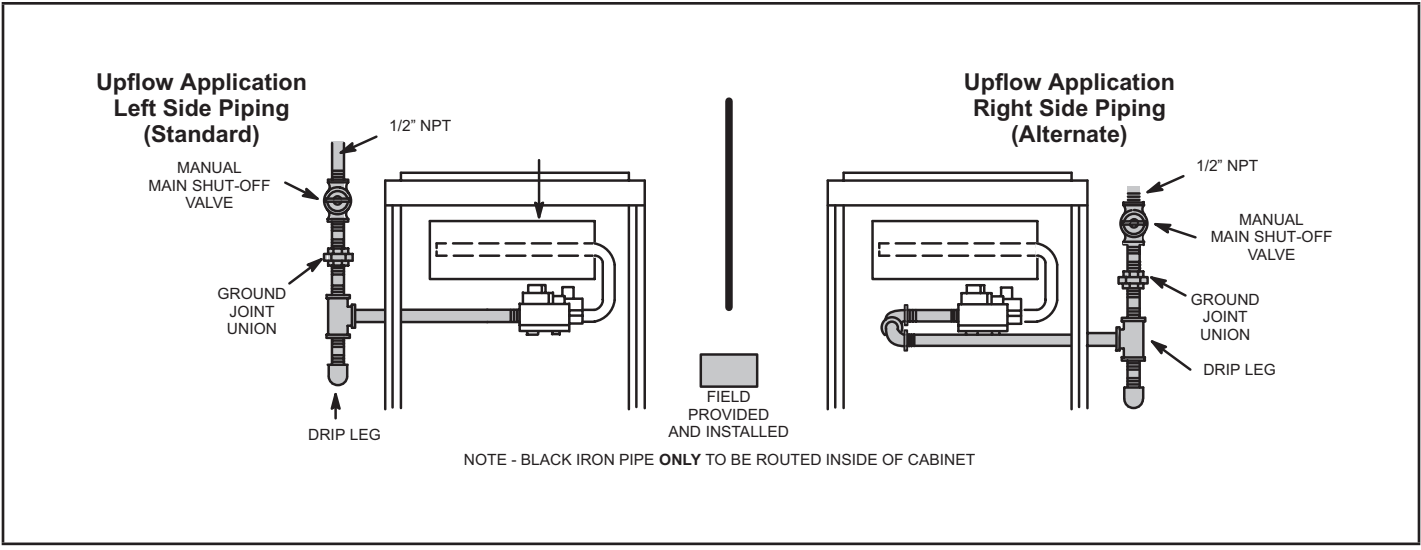
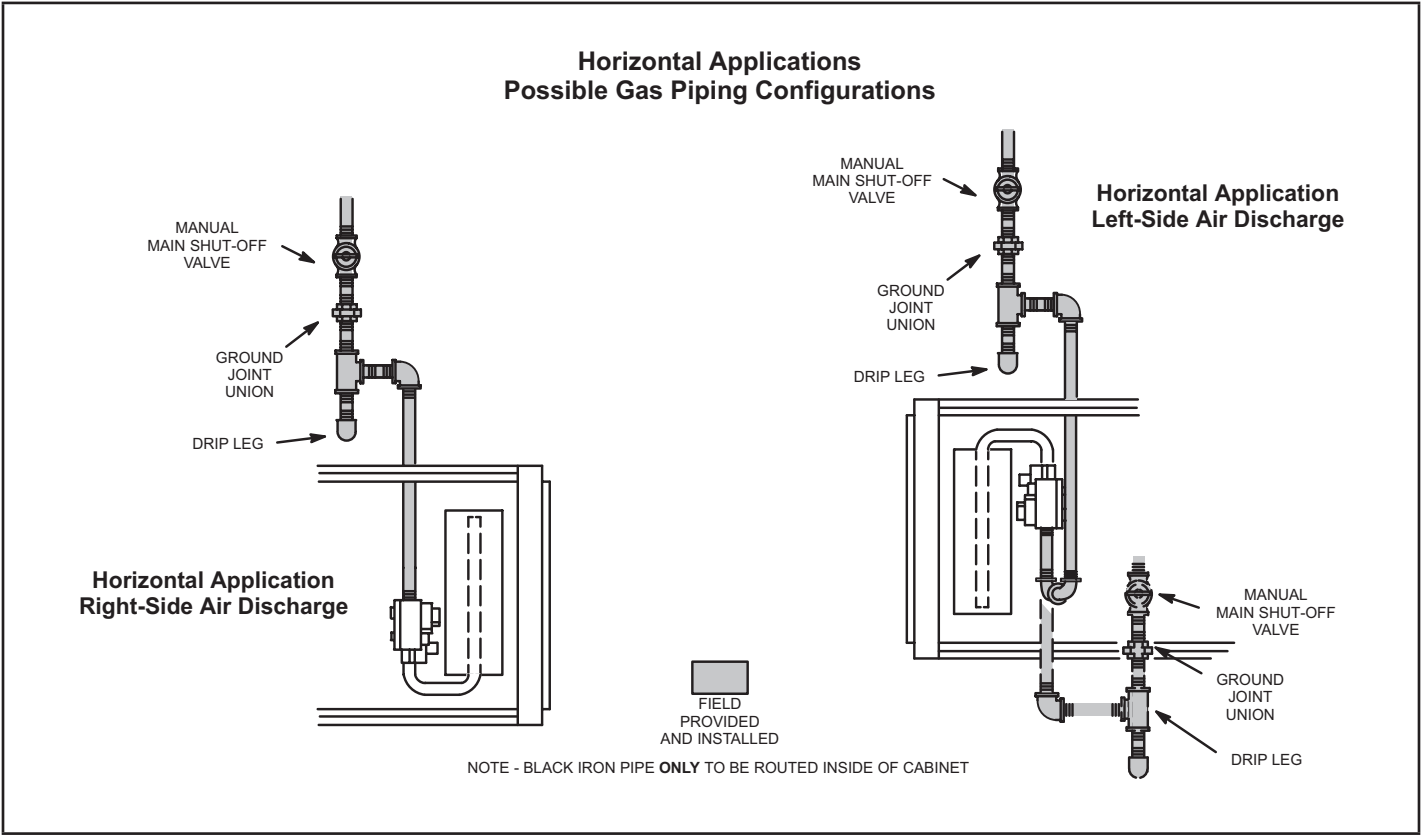

FIGURE 41
FIGURE 42
- 1 - Gas piping may be routed into the unit through either the left- or right-hand side in upflow applications, and either the top or bottom in horizontal applications. Supply piping enters into the gas valve from the side of the valve as shown in FIGURE 41 and FIGURE 42. Connect the gas supply piping into the gas valve. The maximum torque is 800 in lbs and minimum torque is 350 in lbs when attaching the gas piping to the gas valve.
- 3 - Gas piping must not run in or through air ducts, clothes chutes, chimneys or gas vents, dumb waiters or elevator shafts. Center gas line through piping hole. Gas line should not touch side of unit. See FIGURE 41 and FIGURE 42.